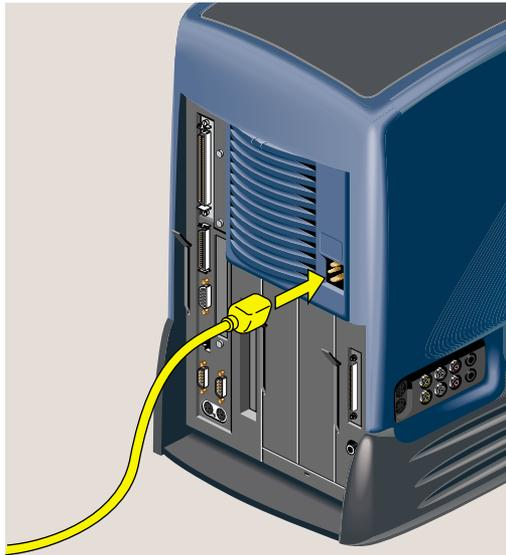

Figure 2-53 Connecting the Power Cable
5. Reconnect the power cable and any other cables you removed (Figure 2-53).